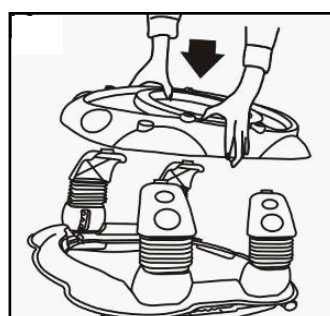

Figure 4
- Connect the legs to the upper tray, as per **Figure 4** so that the screws on the upper tray stick through the holes on the top of the legs.